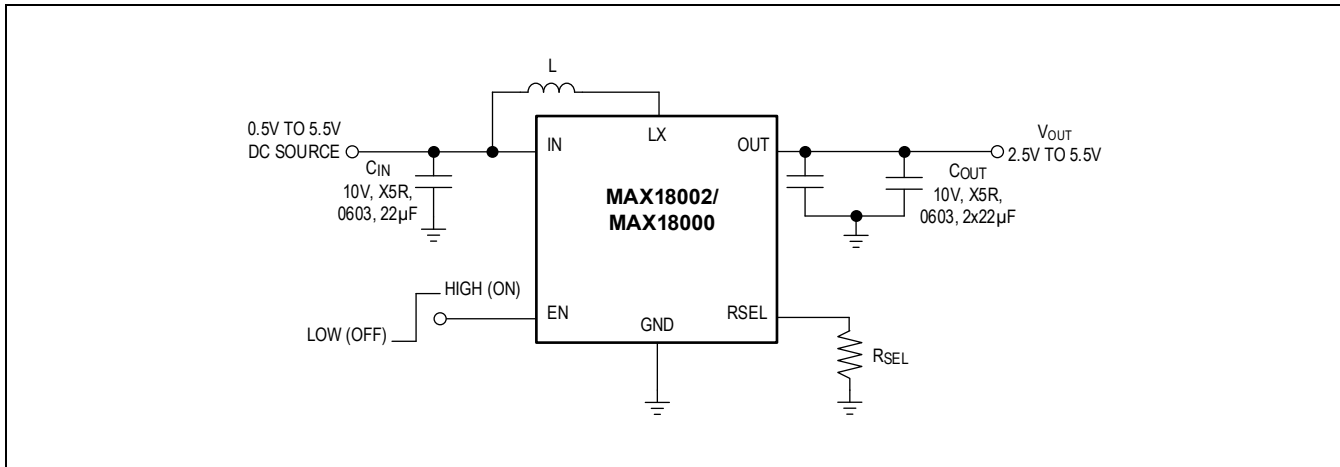
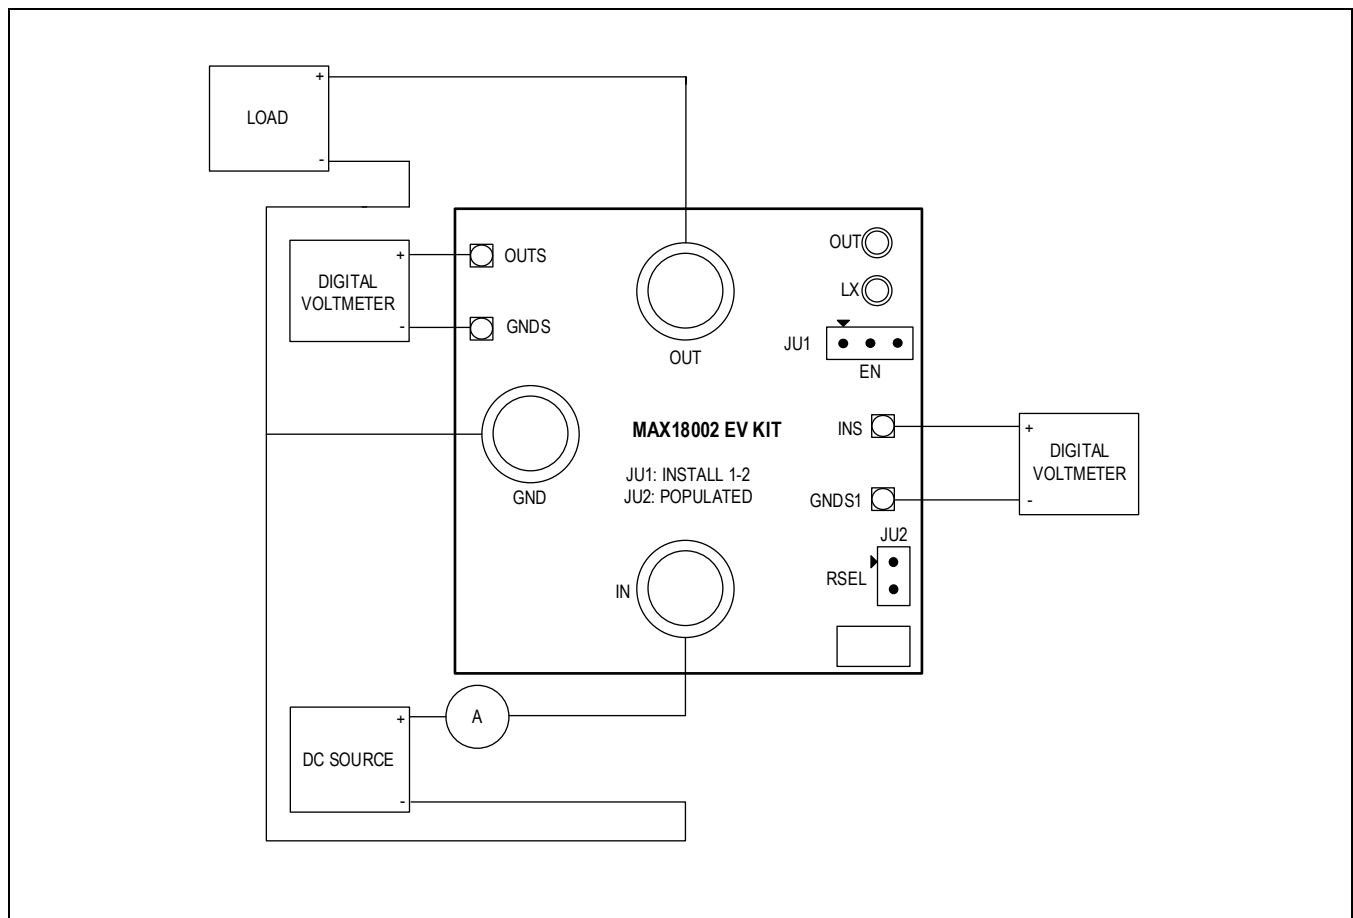

Figure 1. Typical Application Circuit
Figure 4. EV Kit Connection Block Diagram
The simplified EV kit circuit is shown below in Figure 1 and a typical bench setup for MAX18002 EV kit is shown in Figure 4. The same bench setup and typical application circuit are applicable when evaluating the MAX18000.
1. Identify the connections and test points shown in Figure 4. Ensure that the EV kit has the correct jumper settings, as shown in Table 2.